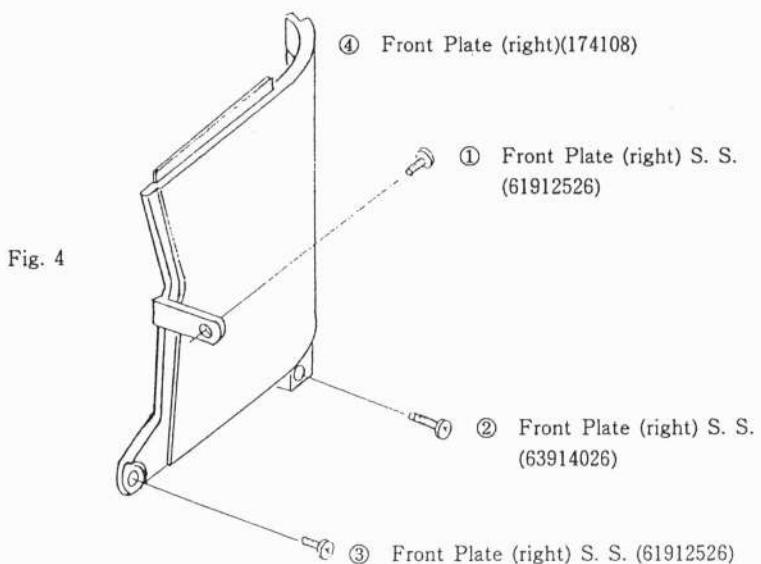

Fig. 4
- 1) Remove the parts in Fig. 4 in the order indicated.